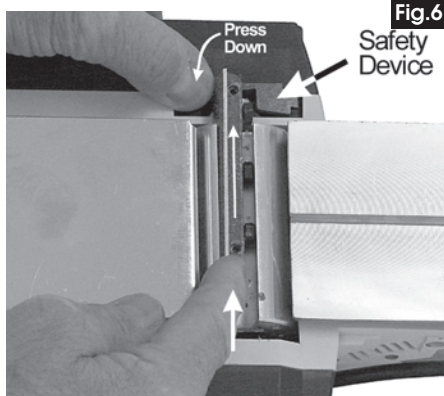

Fig.6
4. Hold down the safety device with your thumb as shown in Fig. 6, and slide the cutter assembly in the direction shown to remove it from the cylinder.